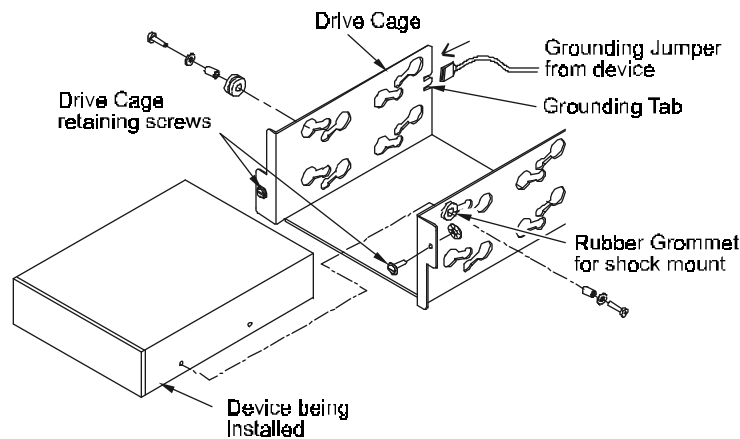

Figure 2-4: Disk Drive Installation
5. Position the drive(s) into place in the drive cage and attach with four screws (see **Figure 2-4**). Be sure to use the proper thread (SAE or Metric) and length screws for your drive(s). Using a screw that is too long may cause damage to your drive electronics, CPU, or both. For shock mount drives, install rubber grommet in the drive cage, then follow the assembly guide below for hardware installation.